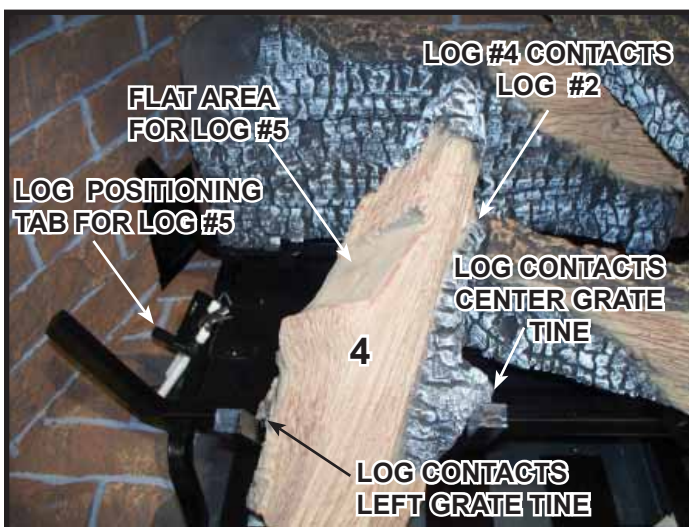

Figure 8.
**Log #4 (2280-704 for TRUE-36; 2281-704 for TRUE-42):** See Figure 7. Place Log #4 between the left and center grate tines. Notches on log will rest on tines. Log should be positioned as far forward as possible. See Figure 8. Log #4 will lean against Log #2.
**Log #5 (2280-705 FOR TRUE-36, 2281-705 FOR TRUE-42):** Locate flat area on Log #4 that will be used to position Log #5. See Figure 8. Place Log #5 into appliance as shown in Figure 9 or Figure 10. Left end of log should rest against left side refractory just in front of air inlet on rear, lower left of appliance.